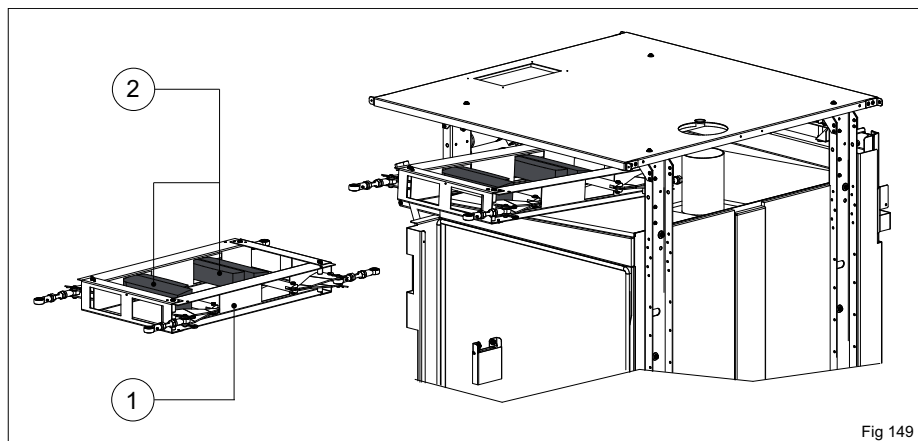

Fig 149
- Slightly lift and pull out the complete linear drive module (Fig. 149 Pos.1)
- ▶ Linear drives (Fig. 149 Pos.2) may now be serviced